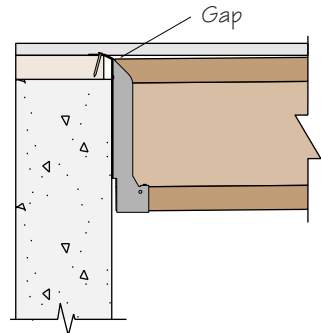

Figure 5
- C. Improper location of sill plate** prevents the top flange of the hanger from being fully supported. When a load is applied, the top flange of the hanger may distort and rub against the face of the concrete or beam, resulting in a squeak (Figure 5).